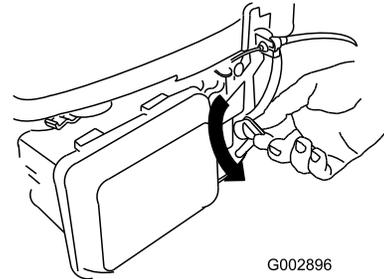

**Figure 18**
1. Install the mulch plug (Figure 18) or the grass bag (Figure 19) on the mower.